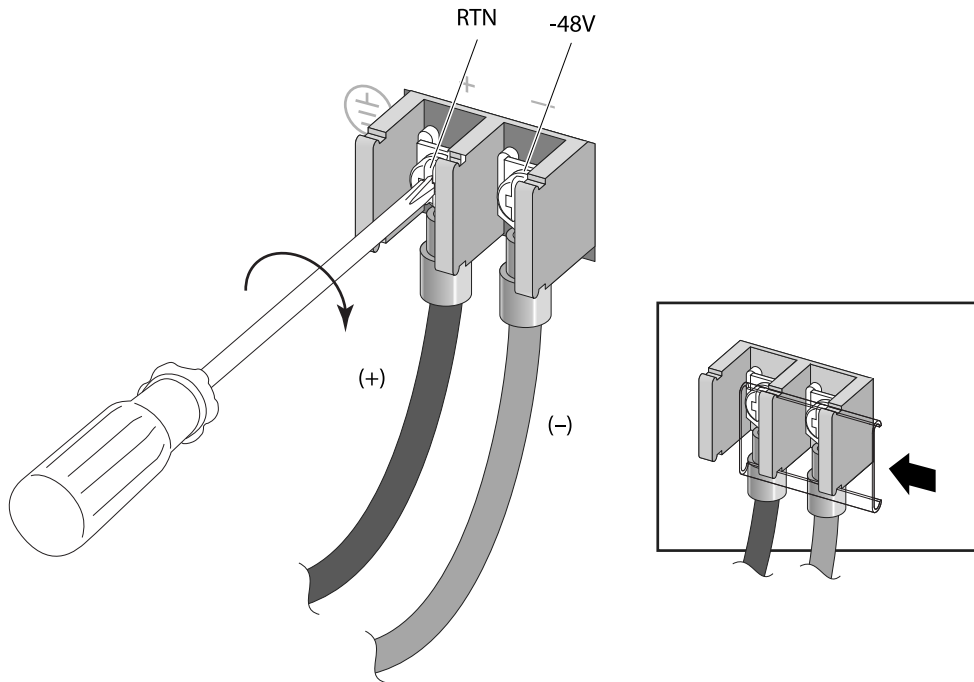

Figure 361: Connecting the DC Power Cables (Part 2)
- d Tighten both screws on the terminal block to 11 inch-pounds (see Figure 361: Connecting the DC Power Cables \(Part 2\) on page 379).
- 4 Slide the cover into place over the terminal block (see Figure 361: Connecting the DC Power Cables \(Part 2\) on page 379).